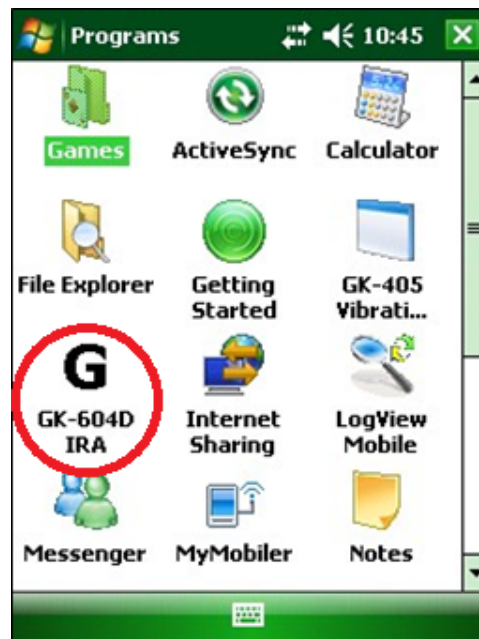

Figure 26 - GK-604D IRA Icon in Start->Program
- 6) The file, GK604D_Installer.CAB can be now deleted from the system root folder to free up memory. The GK-604D IRA is now installed and its icon should appear in “Start->Programs” (Figure 26).